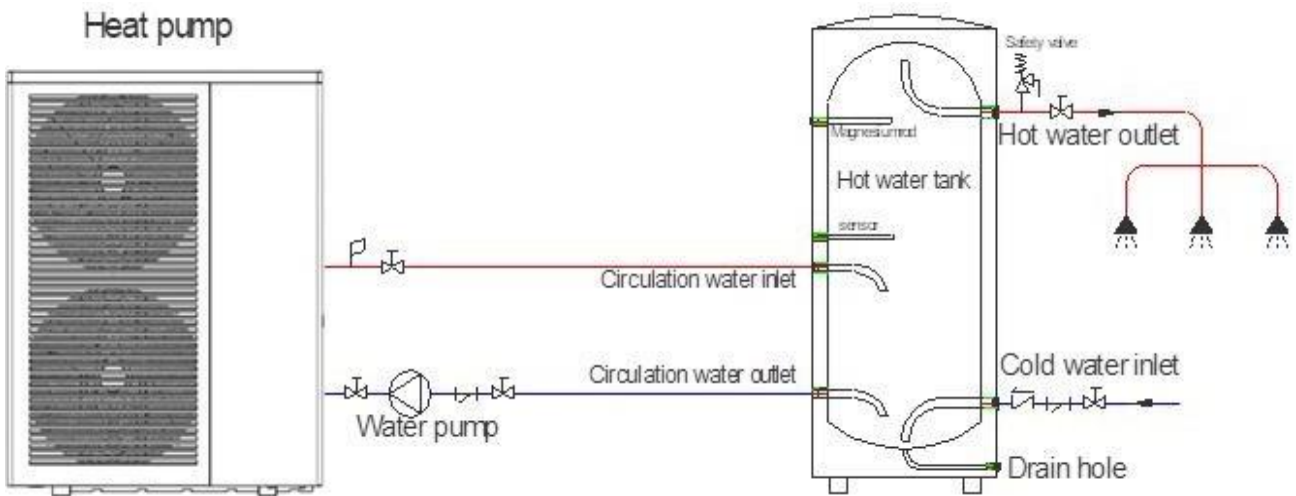

Figure 7
- 1) System installation diagram (see Figure 7).